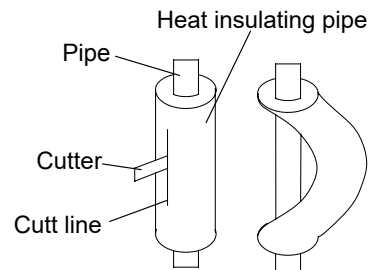

Fig.8
4. When bending the pipe, do not bend it as is. The pipe will be collapsed. In this case, cut the heat insulating pipe with a sharp cutter as shown in Fig.8, and bend it after exposing the pipe. After bending the pipe as you want, be sure to put the heat insulating pipe back on the pipe, and secure it with tape.